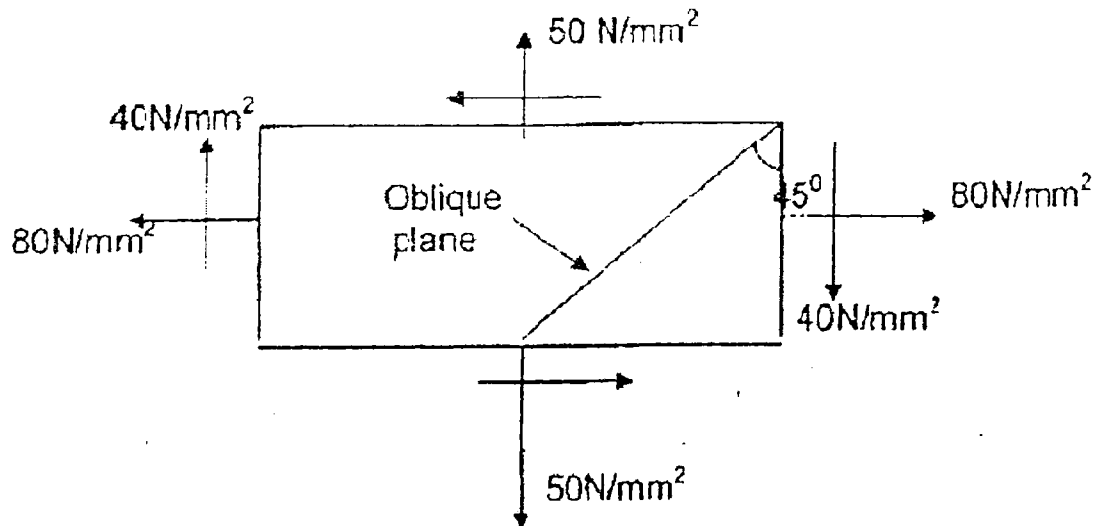

Figure Qn. 15 (b)
- (b) A point in a strained material is subjected to stresses shown in Figure Qn. 15 (b). Using Mohr's circle method, determine the normal and tangential stresses across the oblique plane. Check the answer analytically.